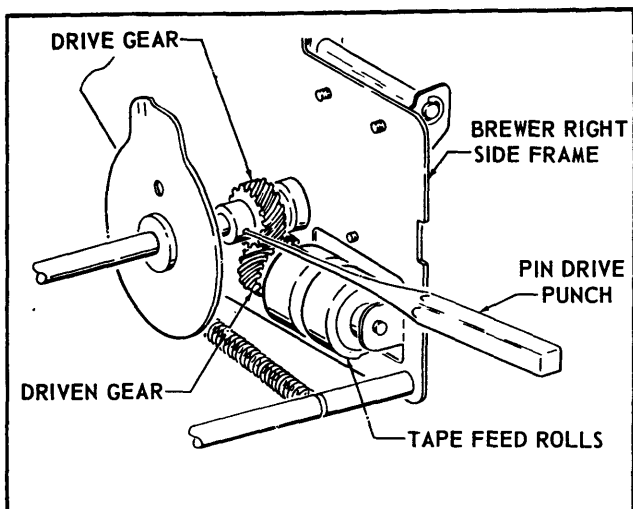

Figure 4.
- E. Use a 5/32" drive pin punch to drive the Roll Pin out of the Drive Gear on the Brewer Mechanism Cam Shaft Assembly. See Figure 4.